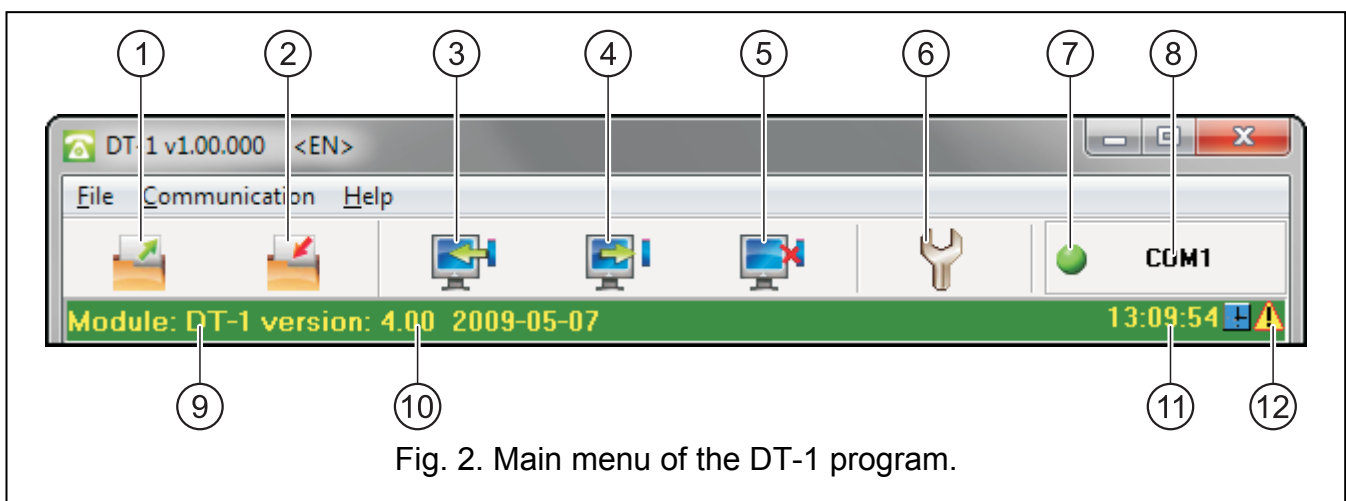

Fig. 2. Main menu of the DT-1 program.
3. Click the "Configuration" button (see Fig. 2 and explanations thereto).
Explanations for Fig. 2: